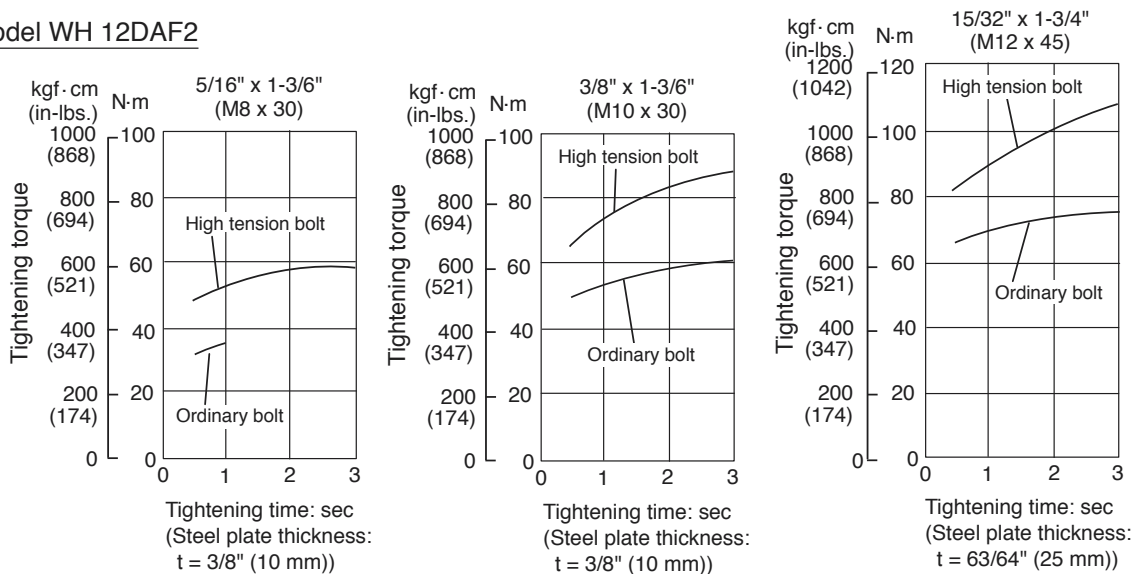

Fig. 5-1
- In the tightening conditions shown in Figs. 5-1 and 5-2, the screws are being tightened directly into a steel plate; accordingly, the torque goes up very abruptly in comparison with ordinary bolt tightening conditions.